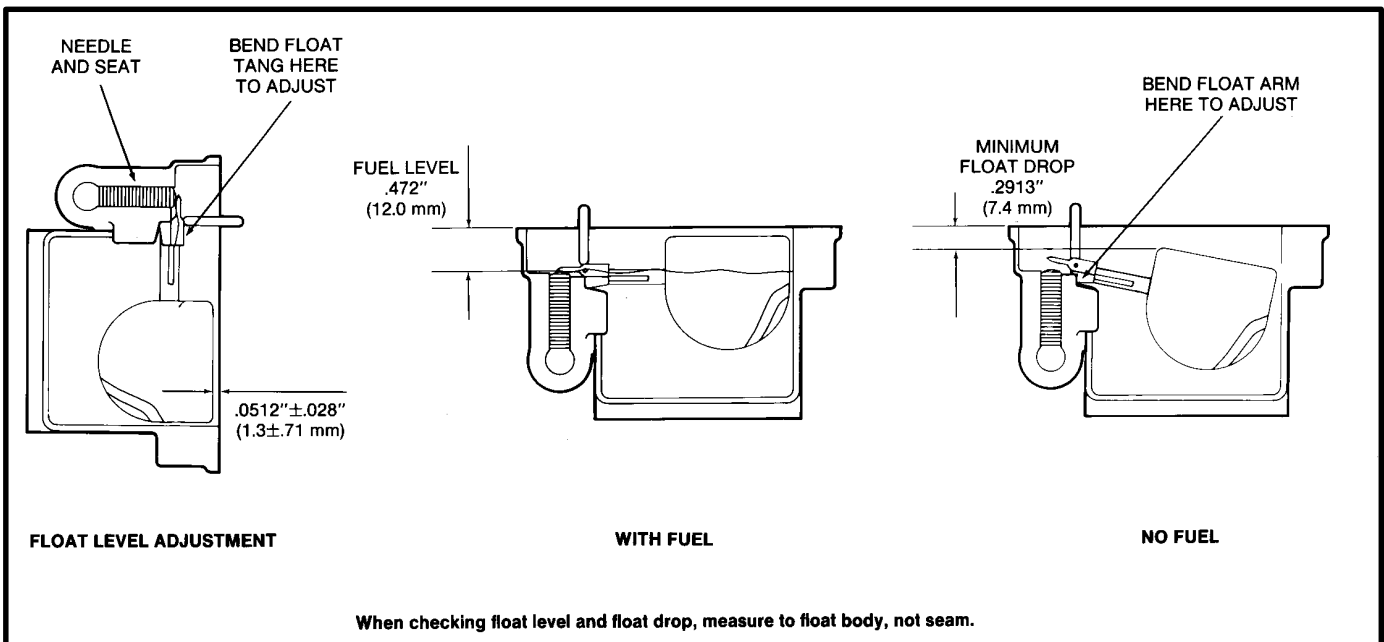

FIGURE 7-4. CARBURETOR FLOAT LEVEL ADJUSTMENTS
2. Turn the carburetor on its side and measure the float level (the distance from the top of the carburetor body to the top of the float). See Figure 7-4. Adjust the float level only if necessary.